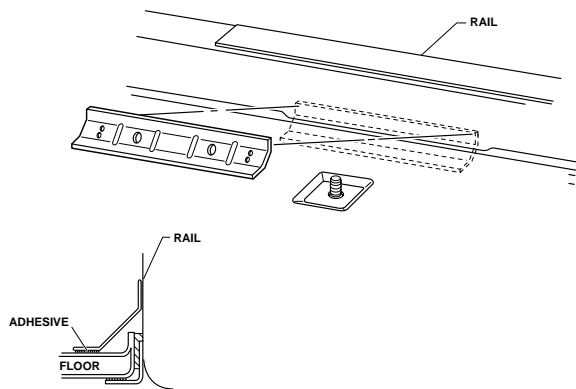

Fig. 3.44 — Remove Reinforcement
- 3 Remove the side reinforcement bonded to the floor panel and the frame rail (Fig. 3.44).